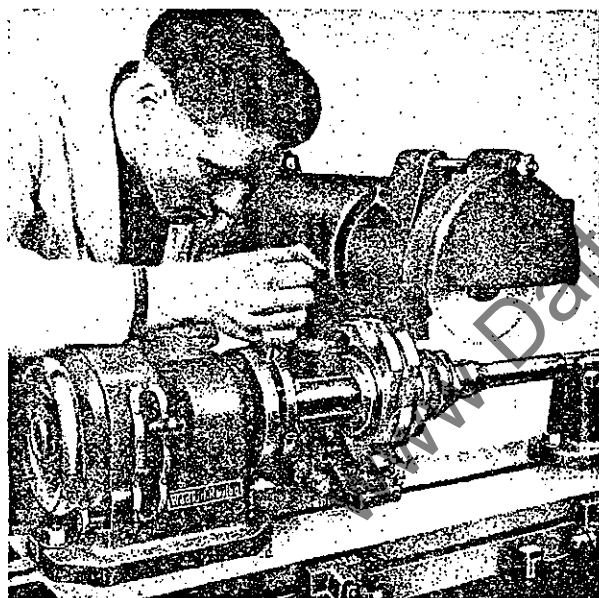

Fig. 18. Setting up for grinding a solid profile cutter showing block gauge used for setting the cutter at the correct angle for grinding.
- (1) Set the cutterhead on the arbor with dividing head correctly indexed for the number of cutting points as described previously. (Note : a dish-type grinding wheel is necessary for grinding this type of head.)
- (2) Insert the setting block into the tee slot in the table with the locating pad to the rear of the machine.
- (3) Slacken off the four screws holding the arbor locking ring, and by means of a tommy bar rotate the arbor until one cutting edge is just touching the pad on the setting block. This operation is shown in Fig. 18.